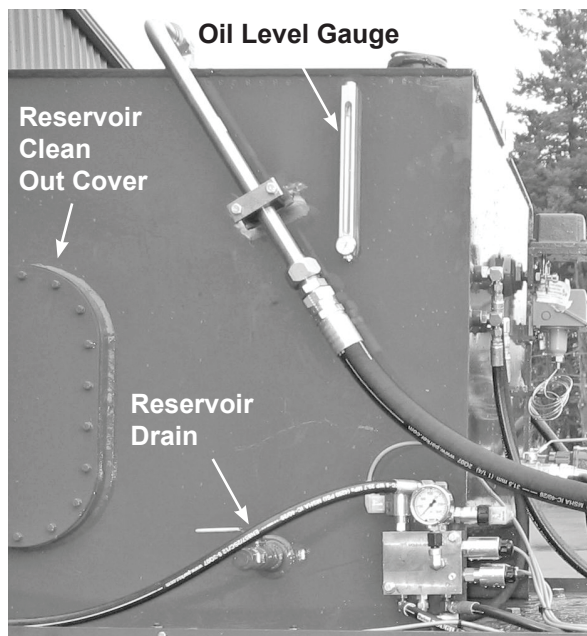

Figure 12 - Reservoir Drain
**Check oil level** Check the oil level gauge, which should be 1" below the HIGH mark with the plunger cylinder extended and the restriction cylinders retracted (see Figure 12 and Figure 36 Pg. 25).